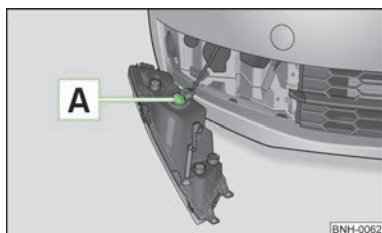

Fig. 131
- Turn the bulb holder [A] » Fig. 131 in an anti-clockwise direction up to the stop and remove.